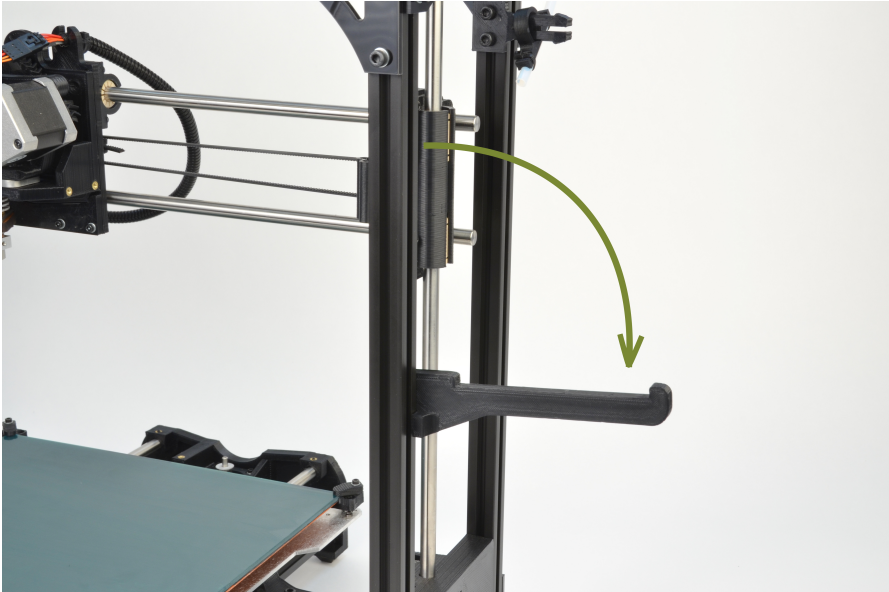

Figure 2.1: Filament reel arm
1. On the front right hand side of the TAZ 2.1 3D printer you will find the filament arm (fig. 2.1, page 34). Place the filament reel on the filament arm with the filament feeding counter clockwise.